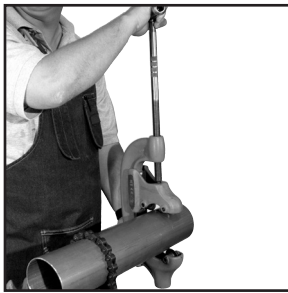

Figure 1: Cut tube to desired length using a tube cutter
1. Select clean, undamaged copper tube and cut to the desired length. Cut tube end square using a tube cutter or fine-toothed saw. Do not crimp over damaged, scratched, gouged, or otherwise damaged tubing. Do not crimp over etch print streams on tubing. (Figure 1).